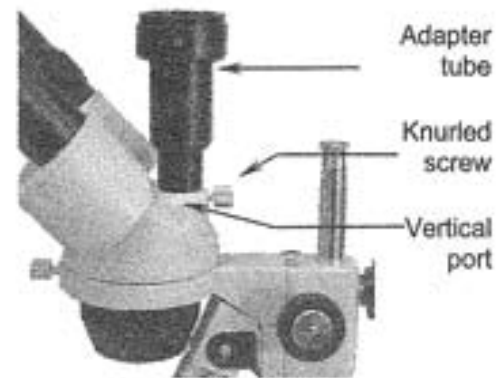

Fig. 4
2. Loosen the knurled screw (Fig.4), situated on the side of the vertical port on the head, sufficiently enough to remove the protective cover.
1. Loosen the knurled screw (Fig.4) on the side of the vertical port of the head sufficiently enough to remove the protective cover.